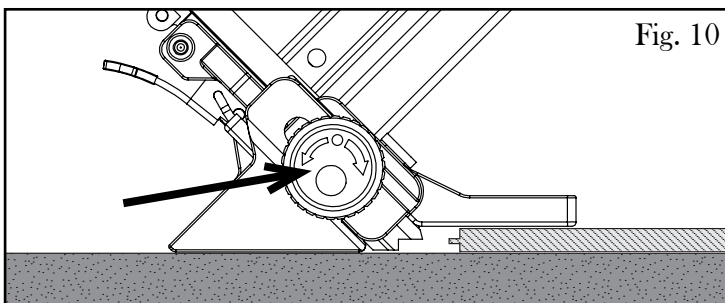

Fig. 10
2. Loosen the shoe adjusting knobs on either side of the shoe (Fig. 10) so that the flooring shoe adjusts to meet the needs of the contact piece.